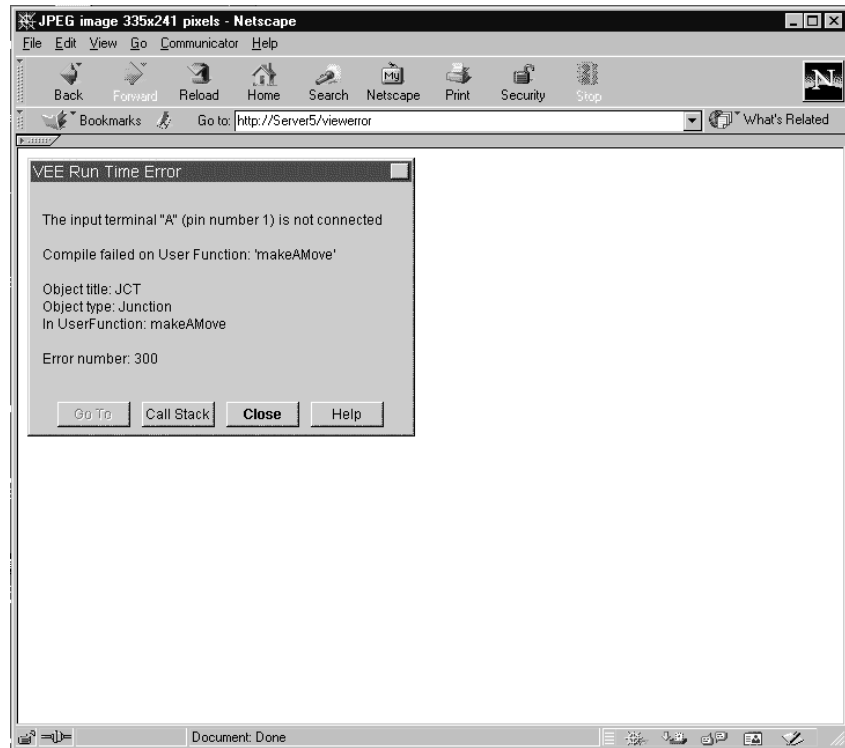

Figure 274 Displaying a VEE Error Message, using the Browser
- 5 The remote user clicks Back in the browser to display the VEE Web Server Home Page and chooses Last Error Message. The browser displays the error message shown in Figure 274.